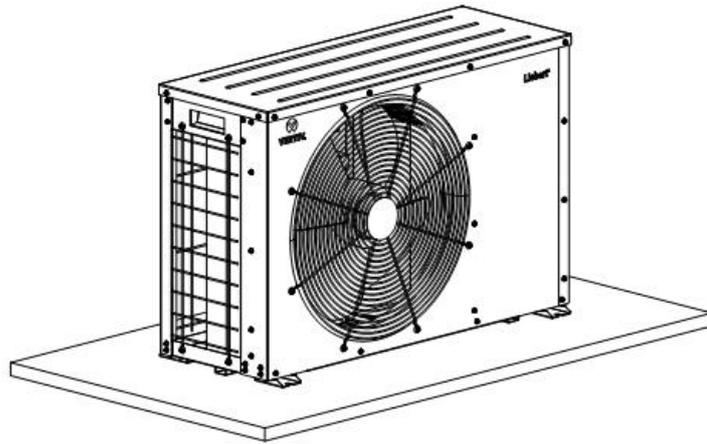

Figure 3-7 Outdoor unit installation
- 1) Place the outdoor unit on the base, as shown in Figure 3-7.